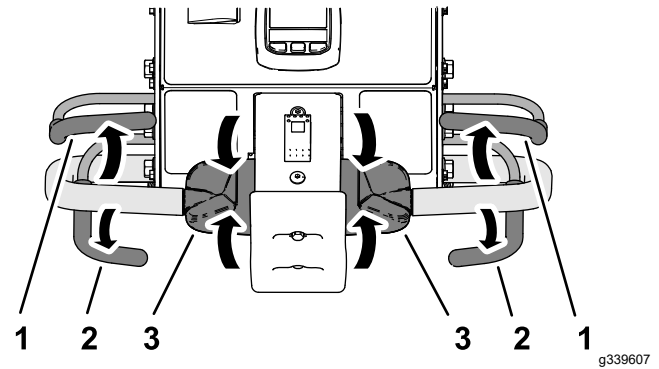

Figure 86
1. If you are aerating, release the aerate bail (Figure 86) to raise the coring head; refer to Raising the Coring Head \(page 47\).